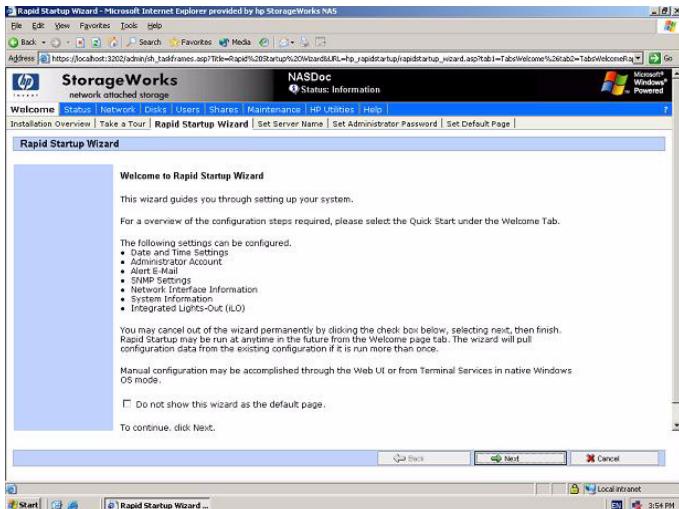

Figure 7: Rapid Startup wizard screen
11. Login to the WebUI. This launches the WebUI configuration application (Rapid Startup) on the target HP StorageWorks NAS device, as shown in Figure 7.
5. Login to the WebUI. This launches the WebUI configuration application (Rapid Startup) on the target HP StorageWorks NAS device, as shown in Figure 7.
3. Open Internet Explorer and click **Yes** in the **Security Alert** dialog to accept the security certificate. This launches the WebUI configuration application (Rapid Startup) on the target StorageWorks NAS device, as shown in Figure 7. If the WebUI does not launch connect to the *LocalHost* and login to the WebUI.
Ensure that an Internet Explorer window has been opened and the WebUI is at the Rapid Startup Wizard as shown in Figure 7.